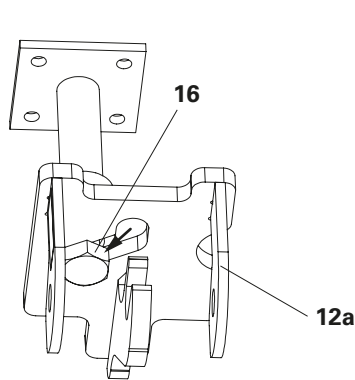

Fig. B1.03a
1. Insert Screw ISO 4014-M24x100-8.8-ga (16) through Suspension Head VGK Flex (12a) on the slot side, and screw it onto Anchor Sleeve M24 (13) but do not tighten. (Fig. B1.03a)